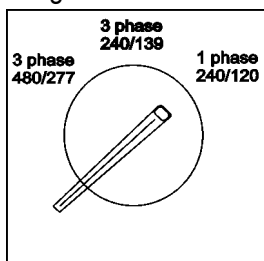

Figure 38. Voltage Selection Switch
5. Check the voltage selection switch (Figure 38) is at the desired voltage.